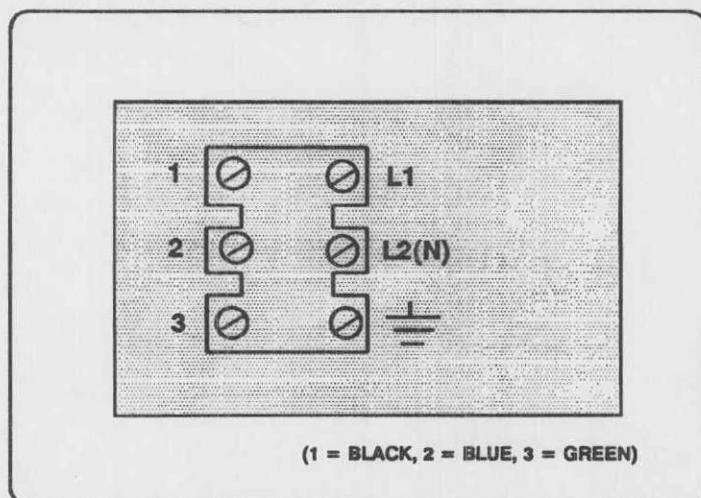

Figure 3-32. Terminal block.
- e. Loosen the screws in the terminal block (fig 3-32) and remove the electrical power cable.